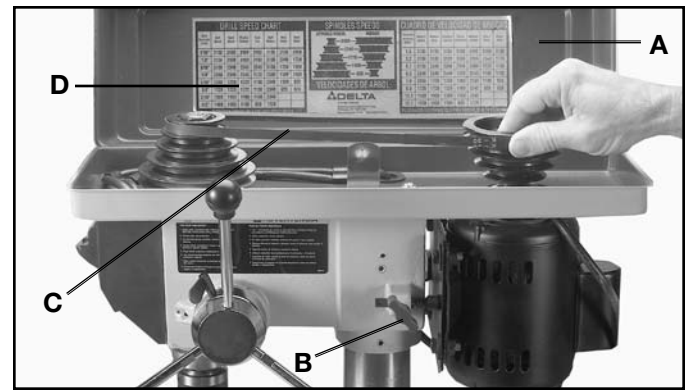

Fig. 23
2. Lift up the belt and pulley guard (A) Fig. 23.
3. Release belt tension by loosening tension lock knob (B) Fig. 23, and pivoting the motor toward the front of the drill press, as shown.
4. While holding the motor toward the front of the drill press head, position the belt (C) on the desired steps of the motor and spindle pulleys, as shown in Fig. 23. A belt positioning and drill speed chart (D) is provided on the inside top cover of the drill press for your convenience.